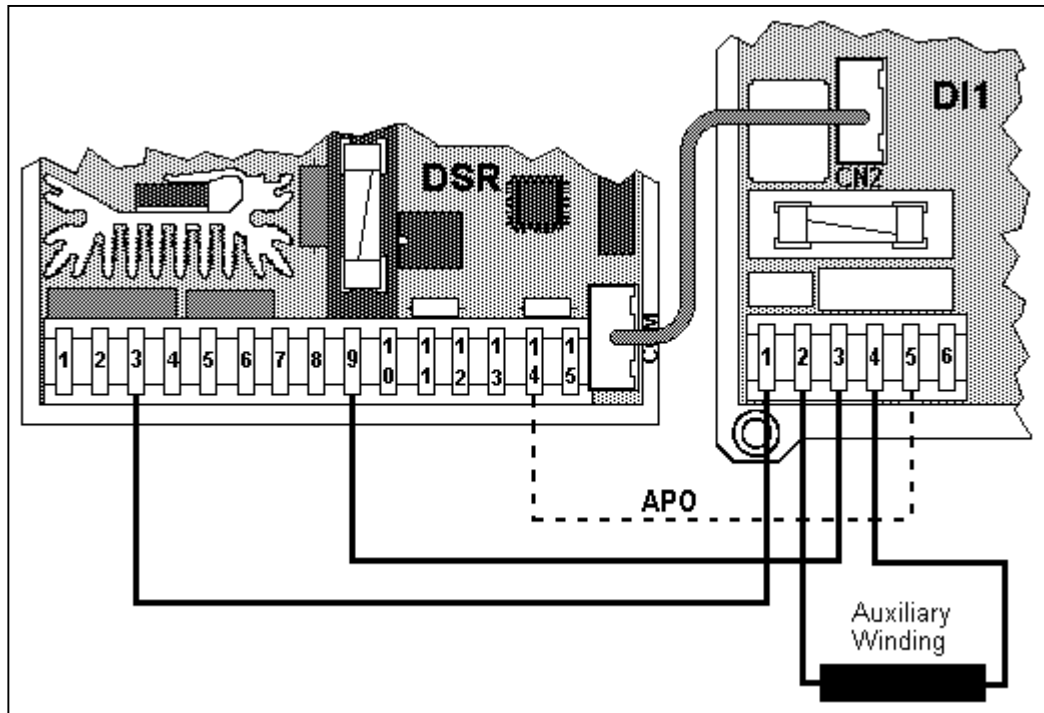

fig. 12: Example of power and connection (optional) of APO signal
The DI1 interface also permits isolation of the A.P.O. contact of the regulator : terminal 14 of the DSR must be connected to terminal 5 of CN1 (as indicated with the dotted line in fig. 12).
- 1) On connector CN1 (terminals 1-2 and 3-4) through the same power as the DSR; for this purpose, the power terminals on CN1 have been duplicated (Fig. 12)